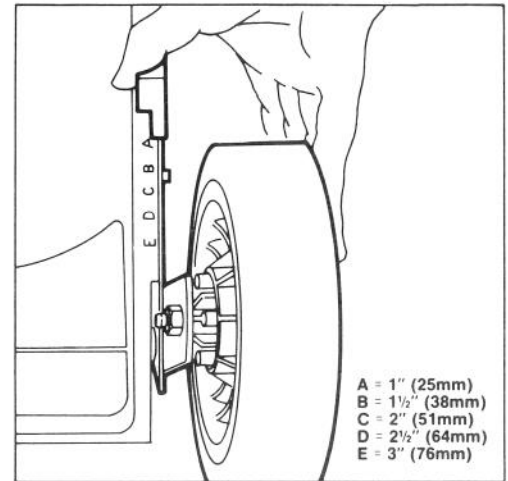

Figure 8
Five letters cast into the housing represent each graduated increment (Fig. 8).
2. For easier adjustment, lift housing up so wheel is off ground. Squeeze adjusting lever toward wheel and move them to desired setting (Fig. 8). Assure pin on adjusting lever engages notch in housing. Adjust all wheels to the same setting.